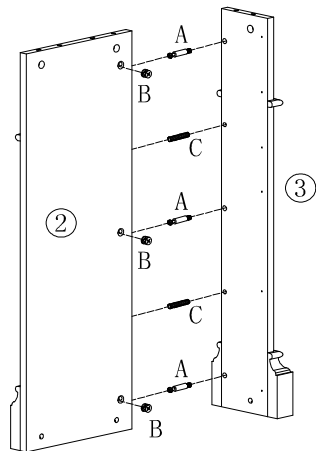

Figure 1
AFTER ASSEMBLED FIGURE 1, INSERT (C) WOOD DOWEL & (H) CROSS SOCKET NUT TO THE RELATED HOLES, THEN USE (E) SOCKET HEXAGON SCREW THROUGH (F) SPRING WASHER & (G) FLAT WASHER TO CONNECT (7) BASE.